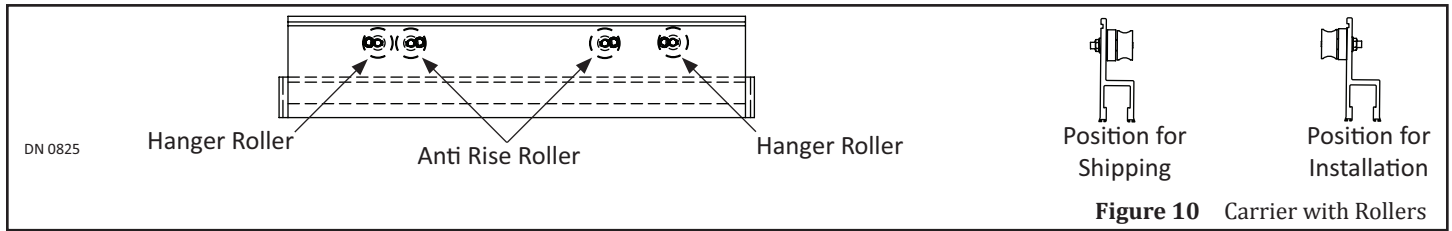

Figure 10 Carrier with Rollers
2. Remove each Roller located at the front of Carrier. Refer to the instruction sticker to reinstall each Roller to the back of Carrier. Ensure each Roller is horizontally aligned to each other. Please see Figure 10.